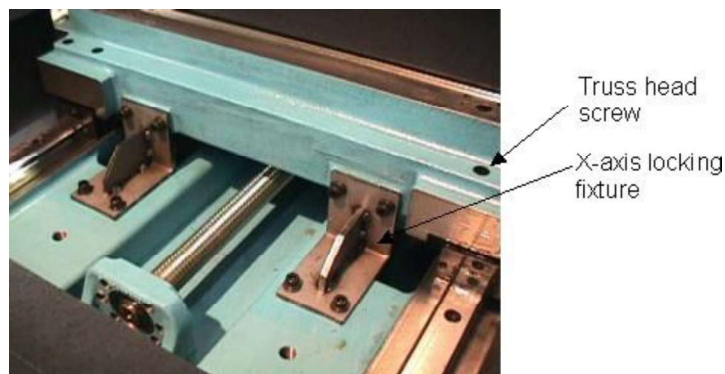

Fig. 2.1-1 X-axis clamping fixture
- (3) Loosen two truss head screws on the X axis winding covers (both sides) and winding up the covers (Fig.2.1-1).
Remove the clamp device that locks the saddle and the saddle base on the left side by loosening the socket head bolts. See Fig.2.1-1